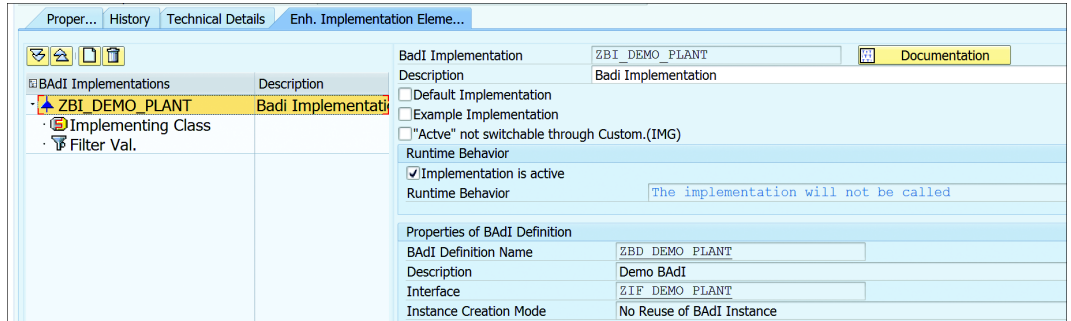

Figure 20.44 Enhancement Implementation
4. Once the details are entered, click the green checkmark to go to the ENH. IMPLEMENTATION ELEMENTS tab, as shown in Figure 20.44. Double-click the IMPLEMENTING CLASS subobject to see the methods of the interface. Double-click the method to implement it. The system will automatically open the method in Transaction SE24, where you can write the code like you would for any regular method.